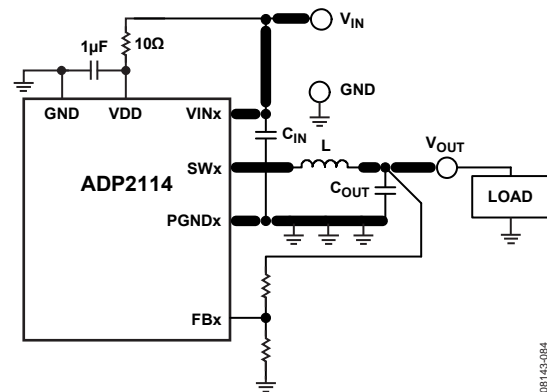

Figure 84. High Current Traces in the PCB Circuit
- Ensure that the high current loop traces are as short and as wide as possible. Make the high current path from C_{IN} through L, C_{OUT}, and the power ground plane back to C_{IN} as short as possible. To accomplish this, ensure that the input and output capacitors share a common power ground plane. In addition, make the high current path from the PGNDx pin through L and C_{OUT} back to the power ground plane as short as possible. To do this, ensure that the PGNDx pin of the ADP2114 is tied to the PGND plane as close as possible to the input and output capacitors (see Figure 84).